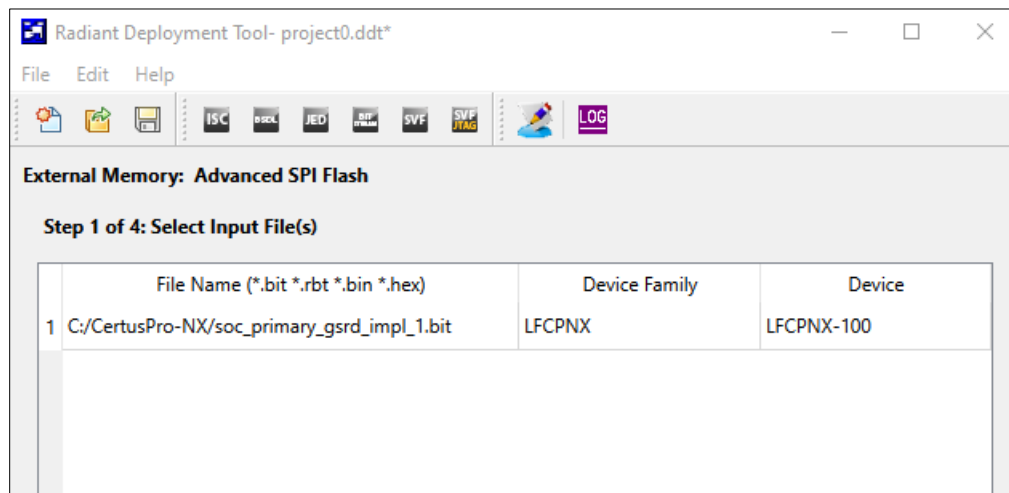

Figure 7.60. External Memory Step 1 of 4: Select Input Files
6. In **Step 1 of 4: Select the Input File(s)** window, as shown in Figure 7.60: